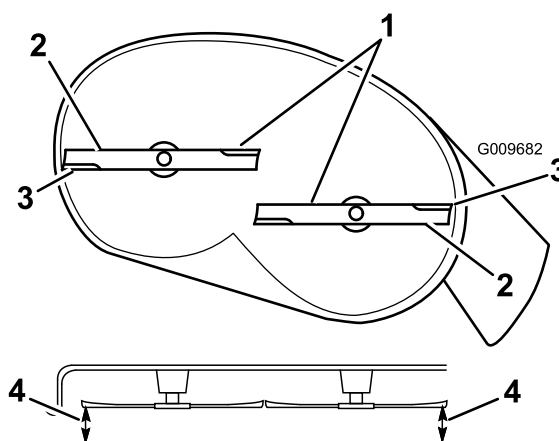
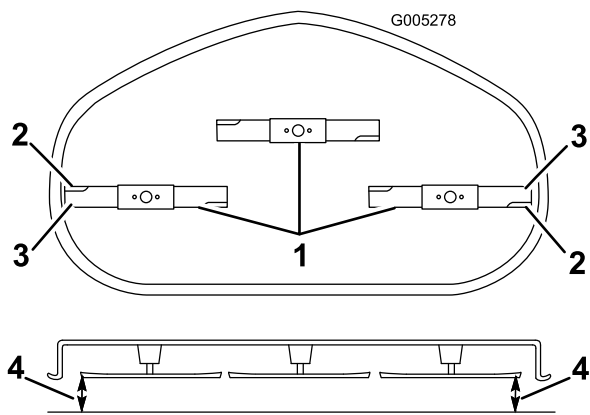

Figure 50
Figure 51
4. Carefully rotate the blades so that they are all side to side (Figure 50 and Figure 51).
- Measure between the outside cutting edges and the flat surface (Figure 50 and Figure 51). If both measurements are not within 3/16 inch (5 mm), an adjustment is required; continue with this procedure.